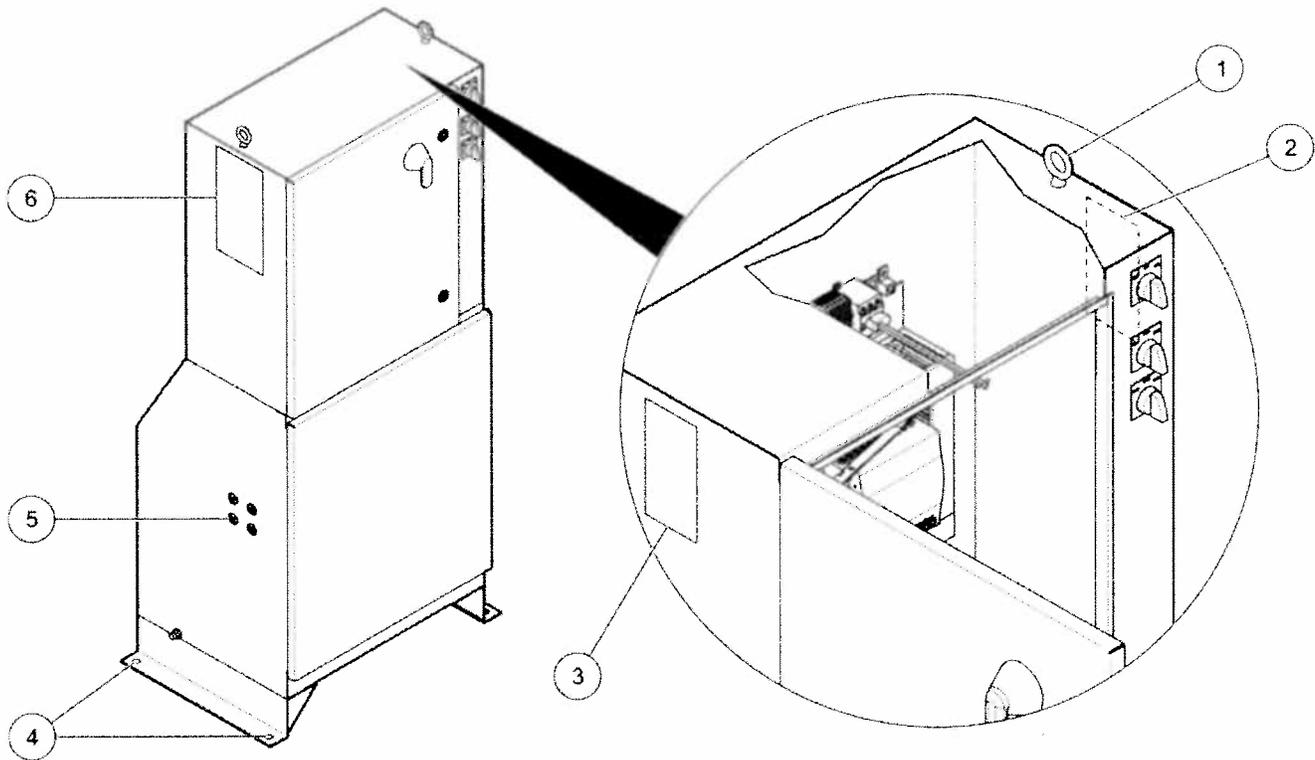

Figure 10 HSC Multibank electrical cutout for outdoor installations
2. Mark the hole locations on the concrete with the holes on the HSC legs (Figure 10).
1. Locate the red label that indicates where electrical connections are made (Figure 10).